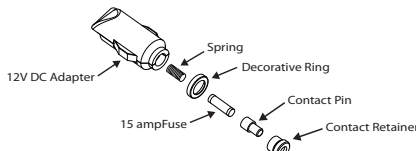

Figure 2. Fuse Replacement
The CPS200SI contains a fuse inside in the lighter adapter (see Figure 2) to protect the unit against overloading. If the inverter draws more than 150 watts, the internal fuse may open to protect the inverter, vehicle battery, and the connected equipment. To replace the fuse, please follow the instructions below:
5. Ensure all pieces shown in Figure 2 are installed in the correct sequence.